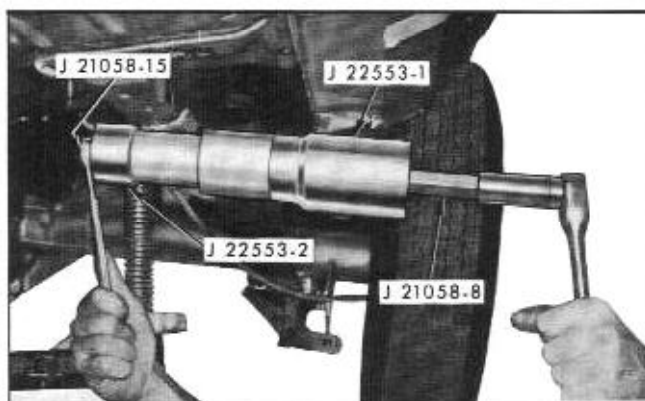

Fig. 4-4 Installing Spring Front Bushing
g. Position installer adapter J 22553-2 over flange end of bushing then position puller screw J 21058-15 through installer adapter and bushing. Refer to Fig. 4-4 for view of installation tools.